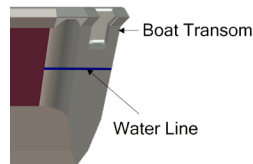

Figure 10
- Mark two 3/4" holes on the transom above the water line for the grommets spaced 1-1/4" apart. Then, drill a pilot hole in the middle of each marked hole with a 5/16" drill bit. Next, drill pilot holes out with a 3/4" drill bit, route hydraulic hoses to HPU through transom holes and install Grommets. **FIG. 10 & 11**